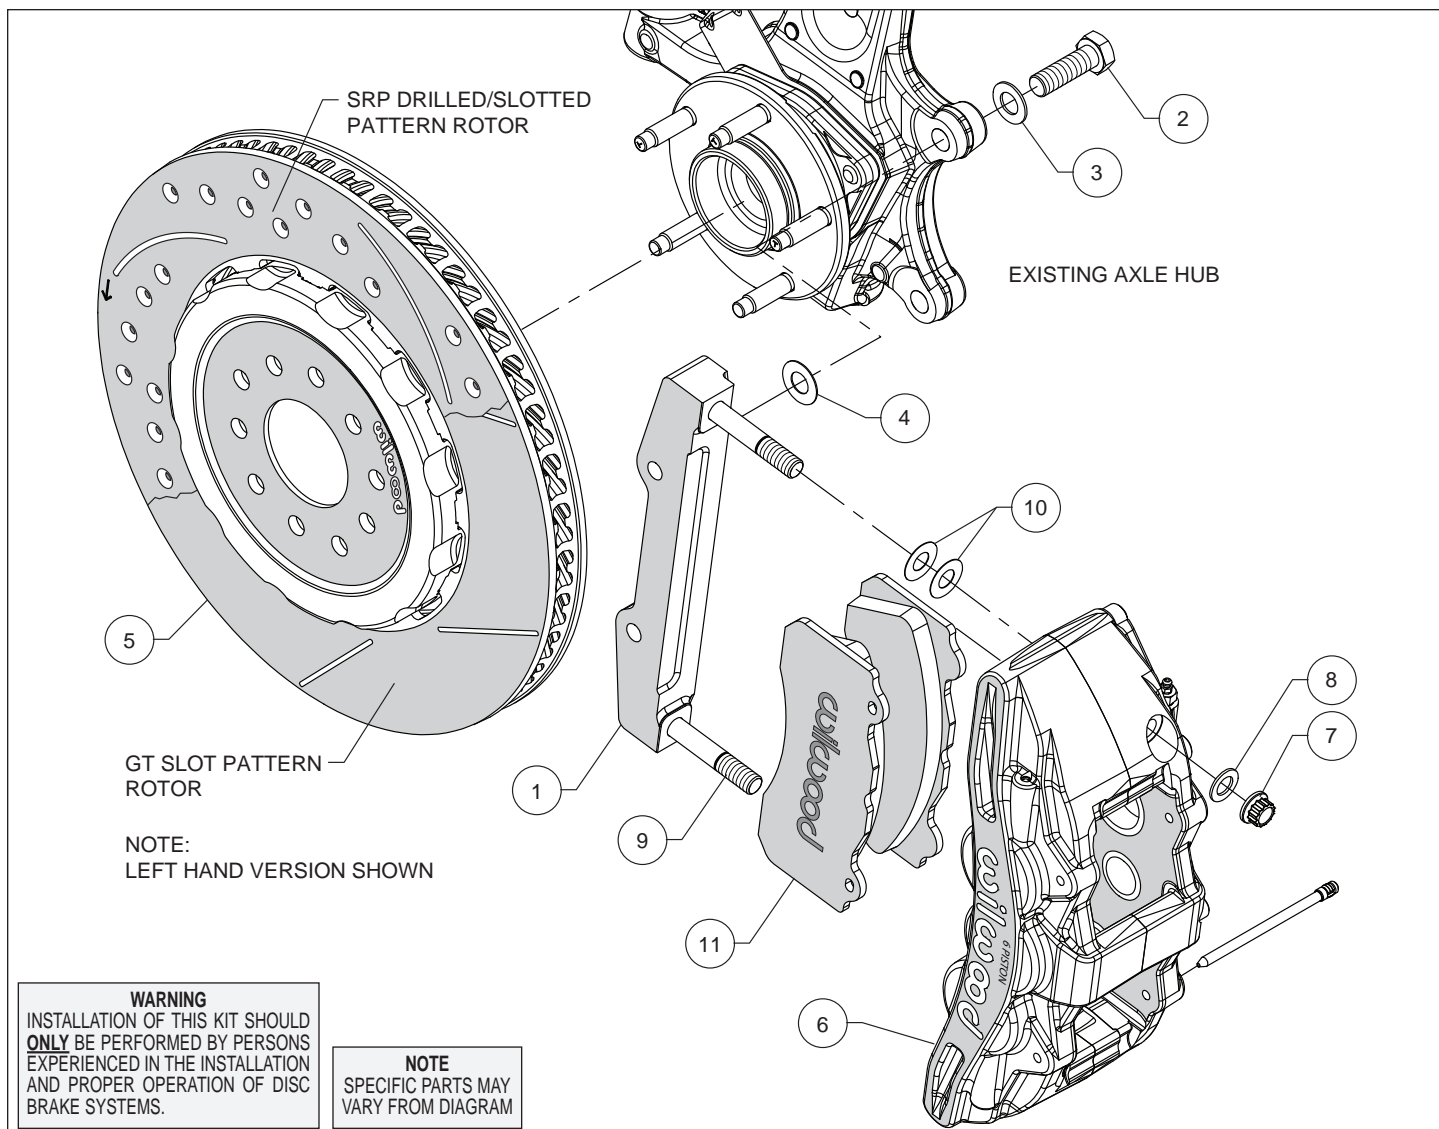

Figure 1. Typical Installation Configuration
Assembly Instructions (numbers in parenthesis refer to the parts list and Figure 1 on the preceding pages):
- The caliper mount bracket (1) should initially be installed with clean, dry threads on the mounting bolts. Orient the bracket, as shown in Figure 1 and Photo 1, and install using bolts (2) and washers (3). Initially place one .029" thick shim (4) on each bolt between the bracket and upright, Figure 1. Temporarily tighten the mounting bolts. **NOTE:** *The bracket must fit squarely against the mount bosses on the upright.* Inspect for interference from casting irregularities, machining ridges, burrs, etc. Later, after the caliper alignment has been checked, the mount bolts will be secured using red *Loctite*® 271.
- NOTE:** *This kit contains distinct right and left hand calipers that must be mounted in a specific direction, as described below.* Lubricate the caliper mounting studs (9) with lightweight oil. Initially place two .015" thick shims (10) on each stud between the caliper and the bracket, as shown in Figure 1 and Photo 3. Mount the caliper (6) onto the bracket (1) using lock nuts (7) and washers (8), Figure 1. Temporarily tighten the lock nuts. Ensure that the caliper is mounted so the largest pistons are at the rotor exit end of the caliper, in relation to the direction of the rotor. View the rotor through the top opening of the caliper. The rotor should be centered in the caliper, Photo 4. If not, adjust by adding or subtracting shims (4) between the bracket and the upright. Always use the same amount of shims on each of the two mounting bolts. Once the caliper alignment is correct, remove the bracket mounting bolts (2) one at a time, apply red *Loctite*® 271 to the threads, and torque to 77 ft-lbs.
- Remove the two pad retaining pins from the caliper (6) by pushing out the pins from the tapered end using a blunt instrument. Insert the brake pads (11) into the caliper from the bottom, Figure 1 and Photo 5. With the friction material facing the rotor, secure the brake pads in place with the pad retaining pins, Photo 6. Reinstall the caliper onto the caliper mounting bracket and temporarily tighten the lock nuts. Check that the top of the brake pad is flush with the outside diameter of the rotor, Photo 7. If not, adjust by adding or subtracting shims (10) between the caliper and the bracket. After the caliper pad height is set, torque the caliper lock nuts (7) to 65 ft-lb.